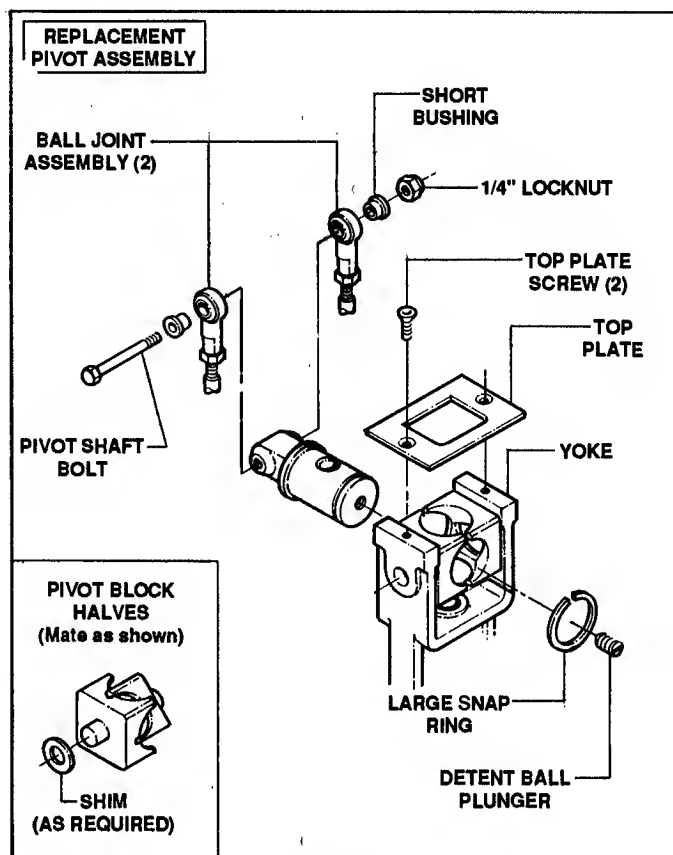

FIGURE 4.16
B. Installation of New Pivot Block and Pivot Shaft See Figure 4.16.